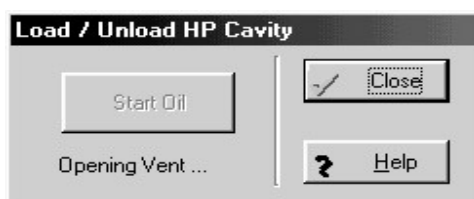

Figure 27. Load/unload HP cavity dialog box
- Make sure that the vent valve is open by clicking on **Load/Unload HP Cavity**, dialog box shown in Figure 27, on the **Operations** drop-down menu. The message under the **START OIL** button should read **Vent Open** before proceeding.
- At the completion of a run, open the vent valve again by clicking on **Load/Unload HP Cavity** on the **Operations** drop-down menu. The message under the START OIL button should read **Vent Open** before proceeding (Figure 27).